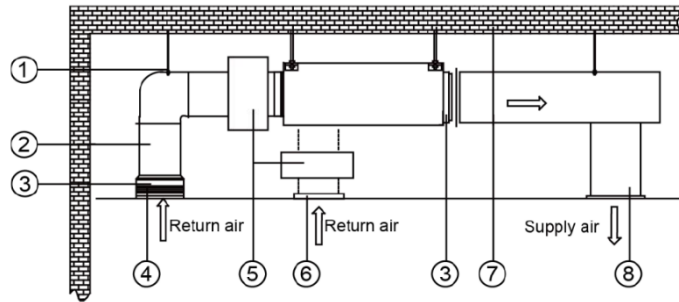

Fig20a
- Installation of the Circular Duct (Fig20a)